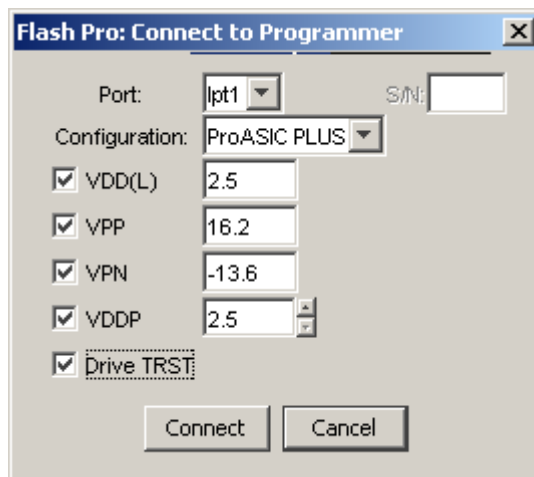

Figure 5-25. FlashPro: Connect to Programmer Dialog Box
1. **From the File menu, click *Connect*.** The FlashPro Connect to Programmer dialog box displays, as shown in Figure 5-25.